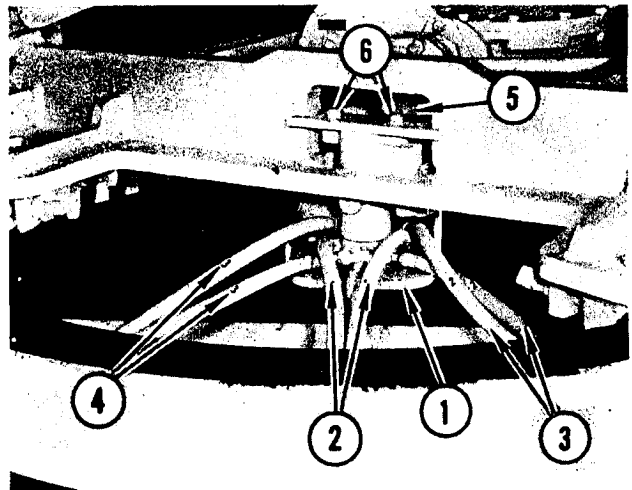

FIGURE 21. ROTARY VALVE HOSE DISCONNECTIONS
Refer to Figure 21. Remove four capscrews and lockwashers from bottom of support (1) and remove support.